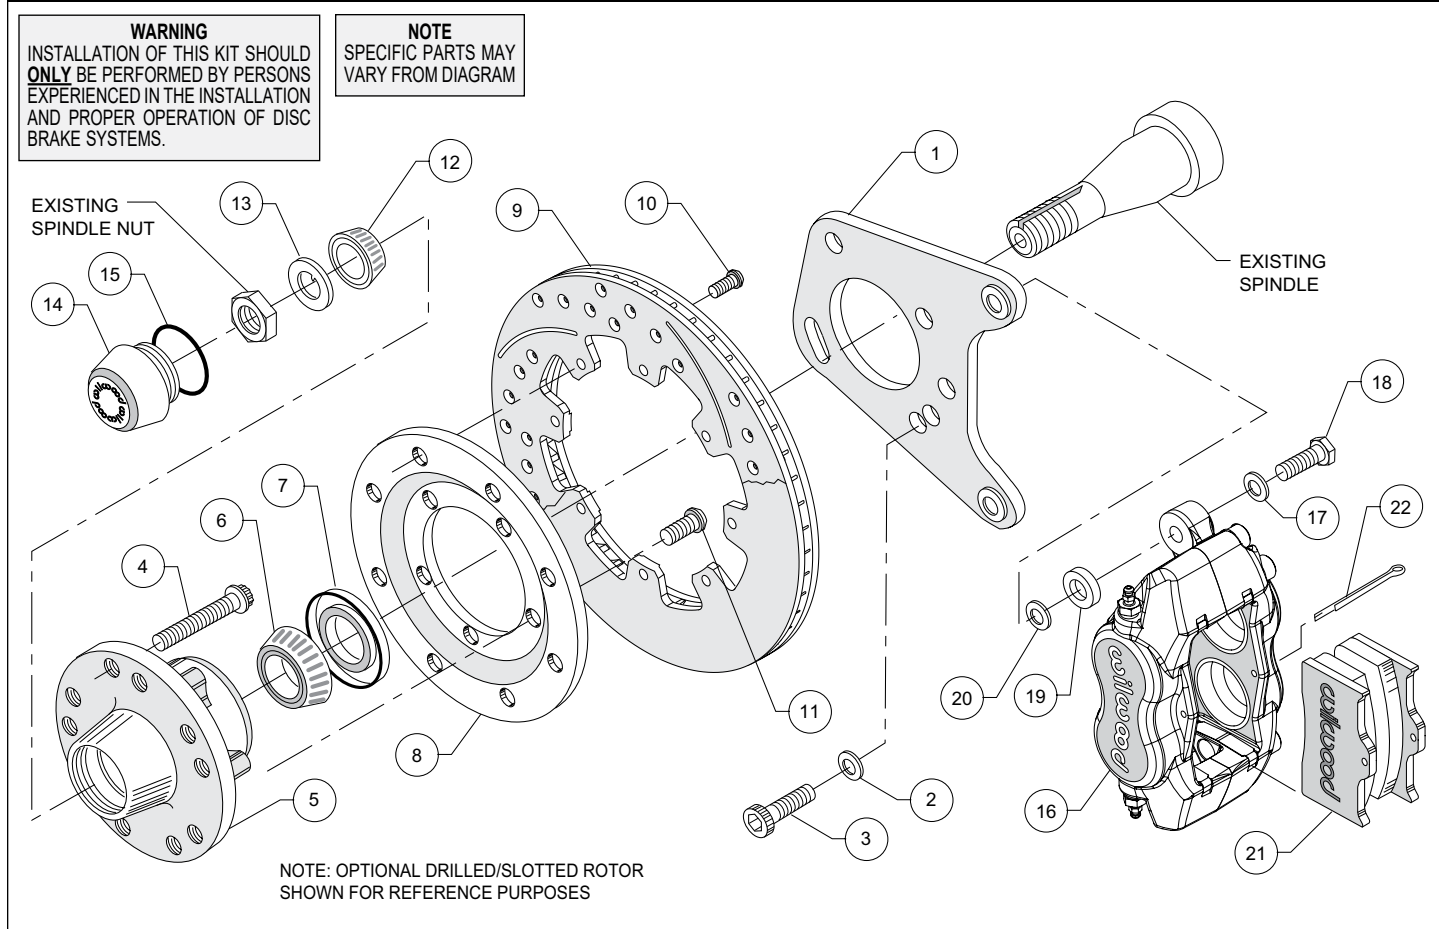

Figure 1. Typical Installation Configuration
NOTE: Numbers in parenthesis refer to the parts list and Figure 1 on the preceding pages.
- Position the caliper mounting bracket (1) on the spindle. **NOTE:** Be sure the heads of the caliper bracket (1) insert nuts are facing outward toward the wheel. Place one washer (2) on each of the three caliper bracket bolts (3). Mount bracket to the dust plate face of the spindle and align the three 3/8-16 holes in the spindle with the corresponding holes in the bracket (1). Apply red *Loctite*® 271 to all three bolt threads (3) and install. Torque bolts (3) to 22 ft-lb.
- Install wheel studs (4) into the hub (5). Torque to 77 ft-lb. **NOTE:** There are two lug patterns of five holes each in the hub (5 x 4.50 and 5 x 4.75). Make sure of the correct hole pattern for the wheel application before installing the studs into the hub.
- Orient the rotor (9) and the rotor adapter (8) as shown in Figure 1. Attach the rotor to the adapter using bolts (10). Using an alternating sequence, apply red *Loctite*® 271 to the threads, and torque to 25 ft-lb.
- Mount the adapter/rotor assembly (8/9) to the hub (5) using bolts (11), as shown in Figure 1. Using an alternating sequence, apply red *Loctite*® 271 to the threads, and torque to 45 ft-lb.
- Pack the large inner bearing cone (6) with high temperature disc brake bearing grease (available from your local auto parts store) and install into the backside of the hub (5).
- Install the grease seal (7) by pressing into the backside of the hub (5).
- Pack the small outer bearing cone (12) with high temperature disc brake bearing grease and install into front of hub (5). Slide the hub assembly (5, 6, 7 and 9) with outer bearing cone (12) onto the spindle. Secure using spindle washer (13), stock adjusting nut and nut locking device. Adjust bearings per Original Equipment Manufacturer (OEM) specifications.